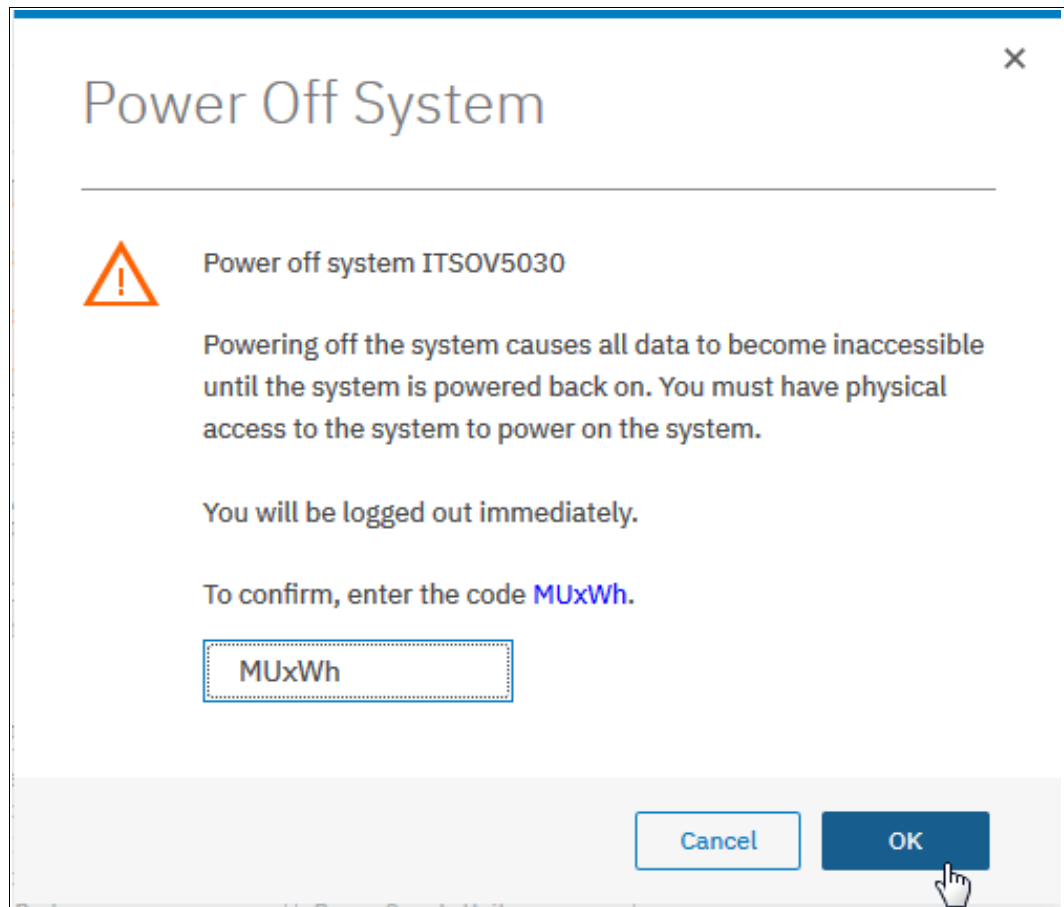

Figure 12-137 Power Off System confirmation window
2. Confirm that you want to power off the system by entering the confirmation code and clicking **OK**, as shown in Figure 12-137. Ensure that all FlashCopy, Metro Mirror, Global Mirror, data migration operations, and forced deletions are stopped or allowed to complete before you continue.